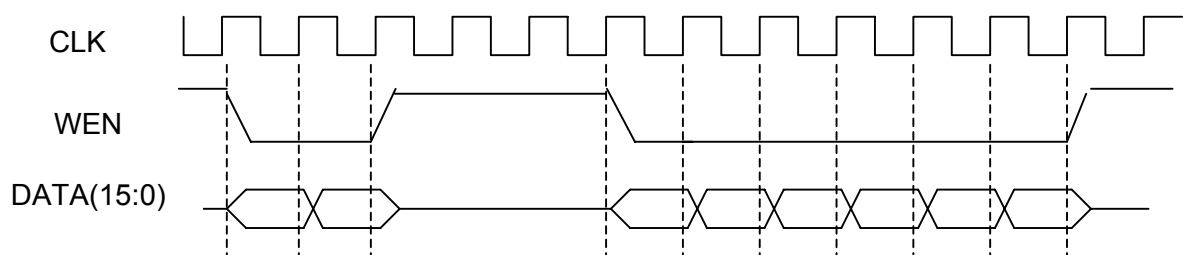

Figure 2: Timing Diagram of the Data Transmission
- Figure 2: Timing Diagram of the Data Transmission 8